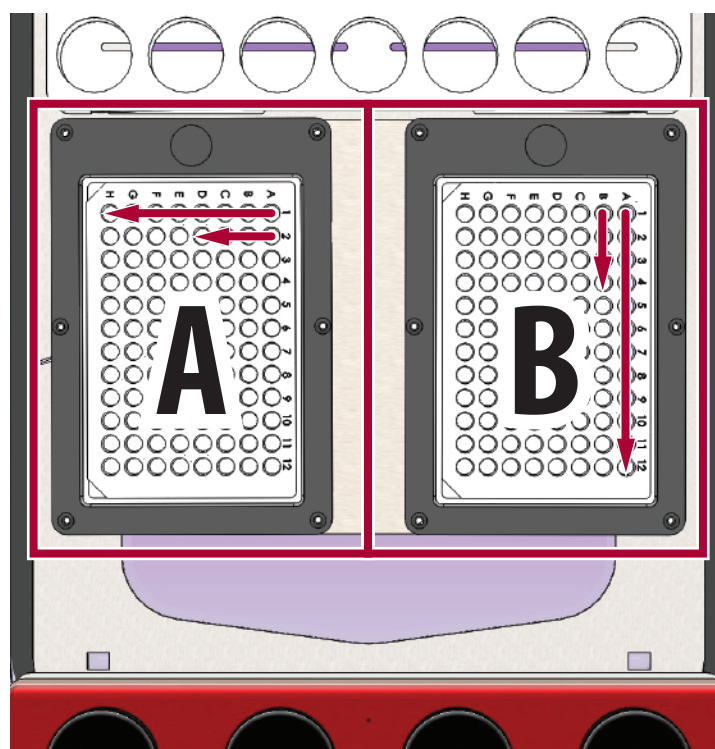

Figure 5A & B. Designating samples. **A.** Standard way to designate samples. **B.** Alternate way to designate samples.
Designating the sample well locations is similar to the way the sample tubes are designated on other rack types. In the example shown in **Figure 5A** for rack 2, the sample set would read 201-212. The first digit (2) specifies rack 2, and the last two digits specify the well numbers. The well numbers move from right to left, then down, starting at the top right corner.